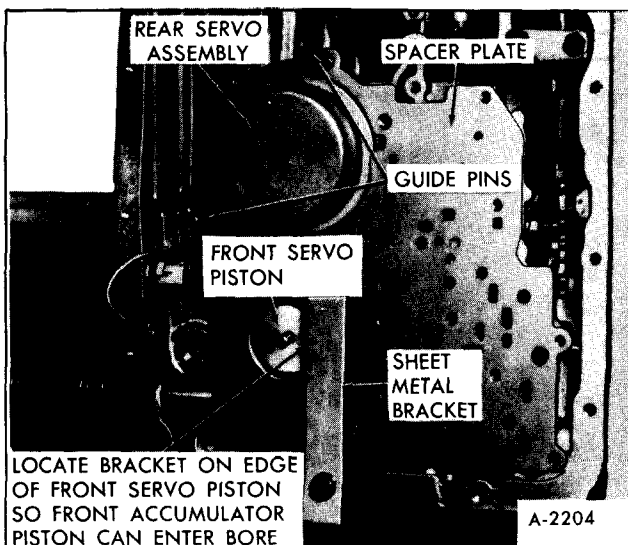

Figure 87—Spacer Plate Holding Bracket
**NOTE:** If the transmission is in the vehicle, a sheet metal bracket will be required to hold the rear servo assembly, front servo assembly, check balls, valve body to spacer plate gasket and valve body spacer plate, until the control valve assembly is installed. See Figure 87.